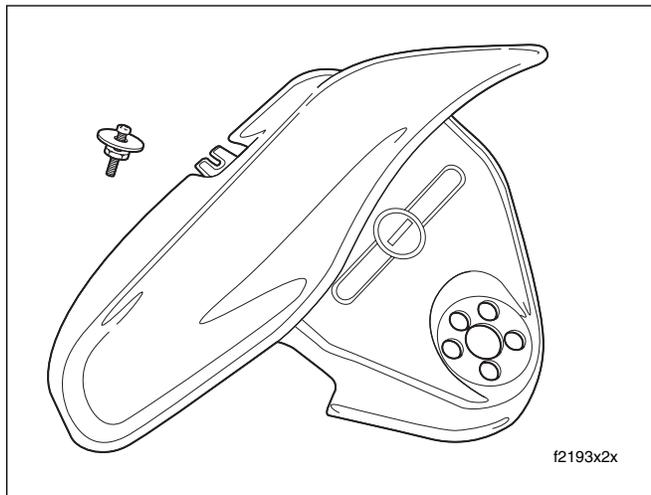

Figure 2-187. Handlebar Clamp Shroud/Wind Deflector and Screw Assembly
- Raise handlebar clamp shroud/wind deflector and remove from motorcycle. See Figure 2-187.
6. If disassembled, assemble screw assembly as shown in Figure 2-187.